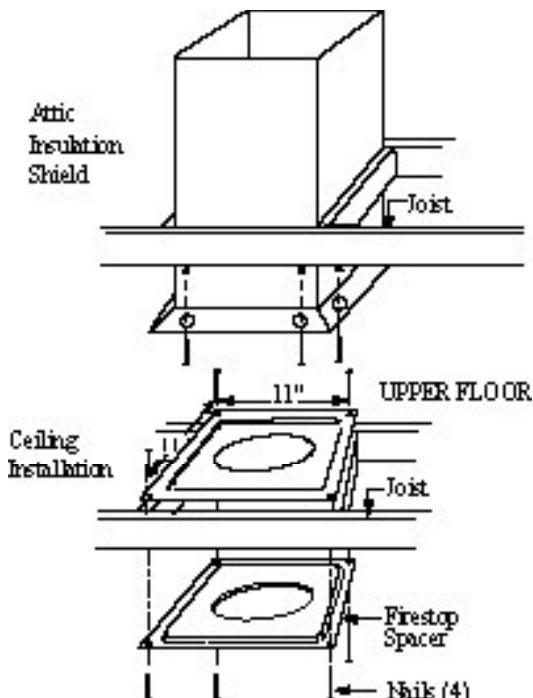

Fig. 35
- Place firestop(s) #7DVFS or Attic Insulation Shield #7DVAIS into position and secure. (Fig. 35)